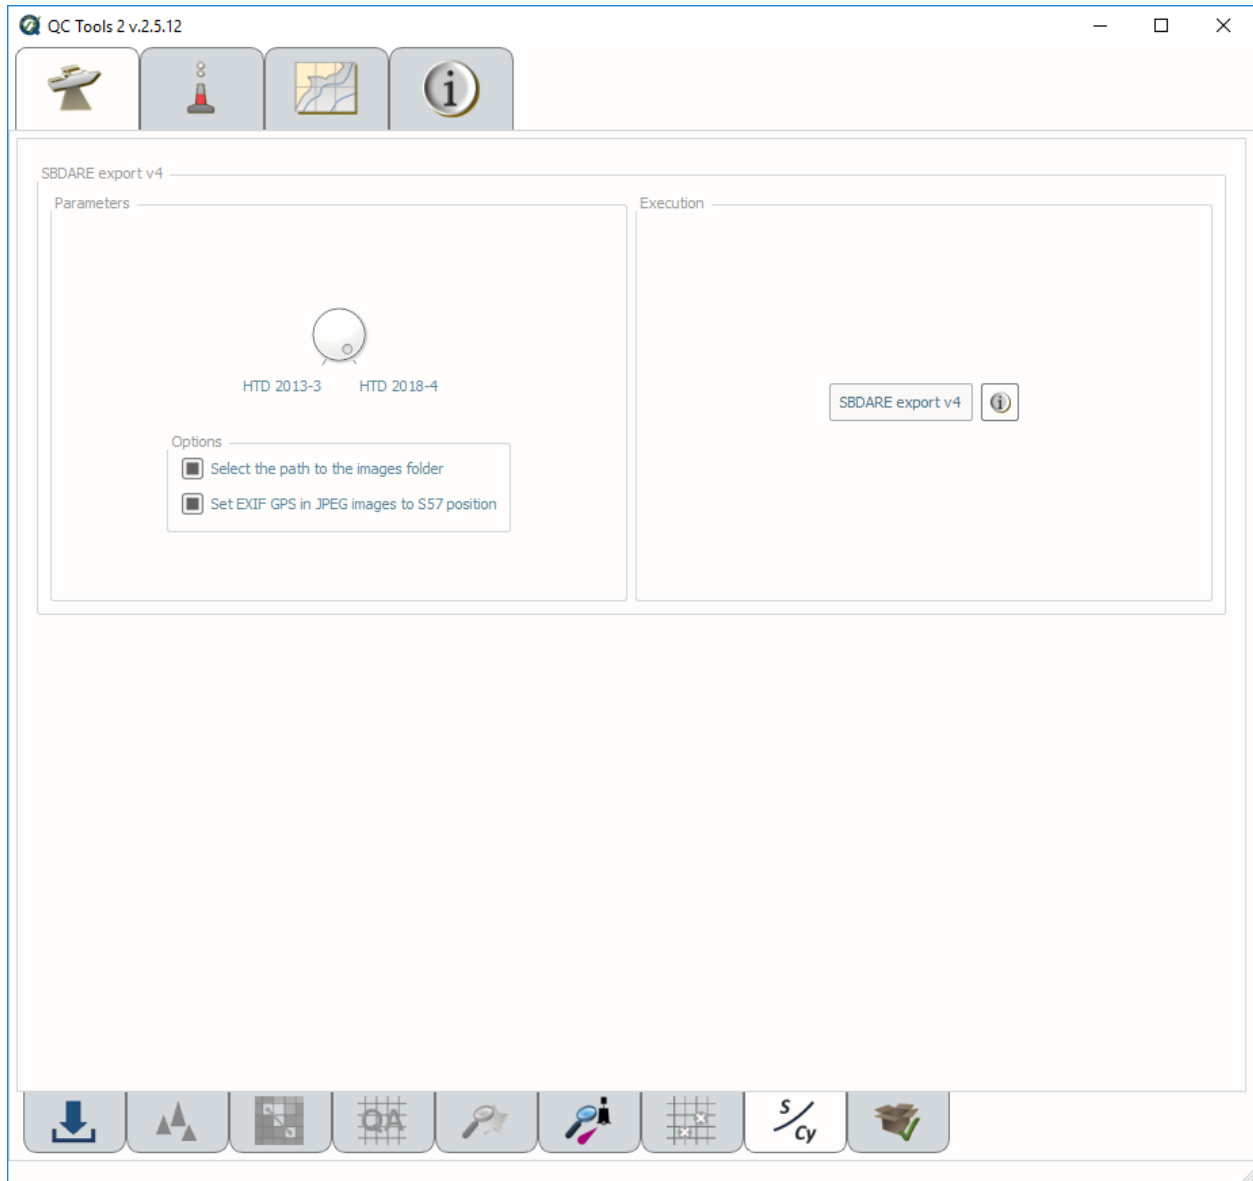

Fig. 2.29: SBDARE exports interface.
- Click **SBDARE export v4** (Fig. 2.29).